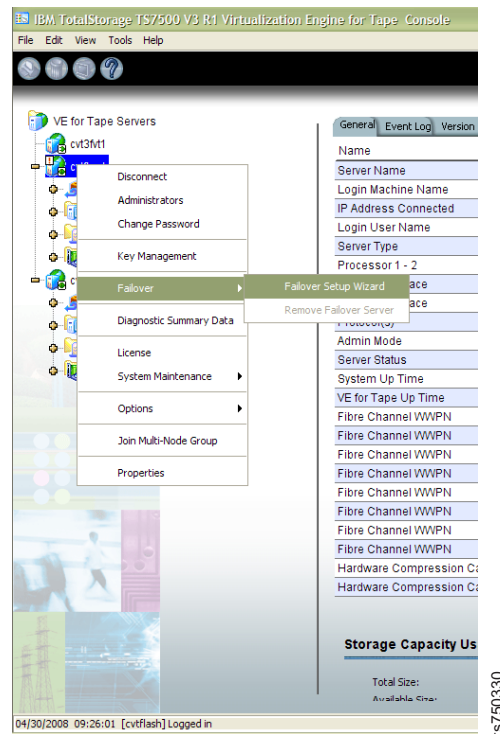

Figure 53. Starting the Failover Setup Wizard
- ___ 4. Click **Failover > Failover Setup Wizard**. The Failover Setup Wizard starts. Figure 53 shows this result for the lower server.